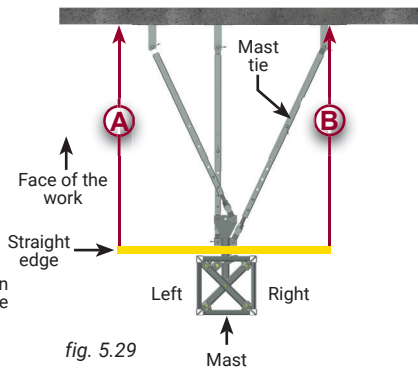

fig. 5.29
- 4- Holding a straight edge of at least 4' (1,2 m) long horizontally on the face of the mast section, measure the distance between each end ("A" and "B", fig. 5.29) and the face of the work. Using the threaded rod, adjust the length of the angle mast tie installed in step 3 until both distances are equal.